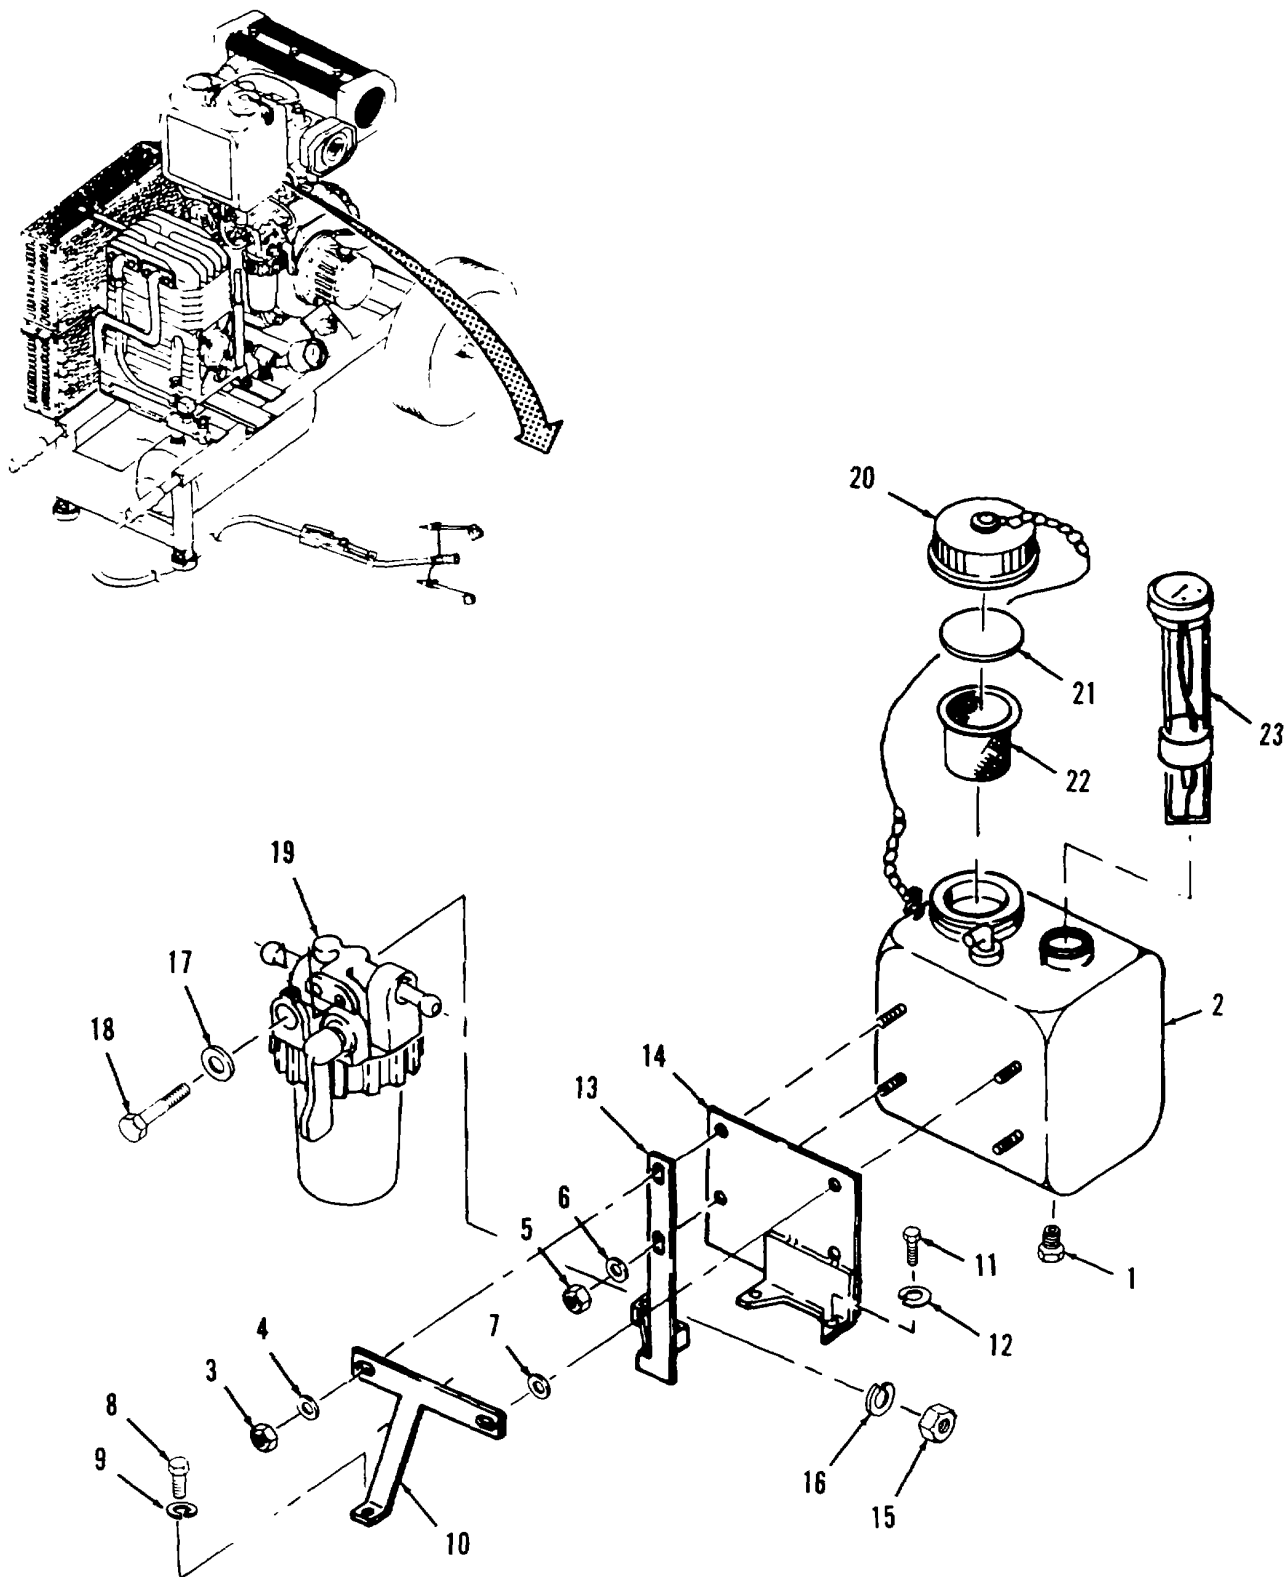

Figure 4-8. Fuel Tank Repair and Replacement.
- a. Removal.** (Refer to Figure 4-8).